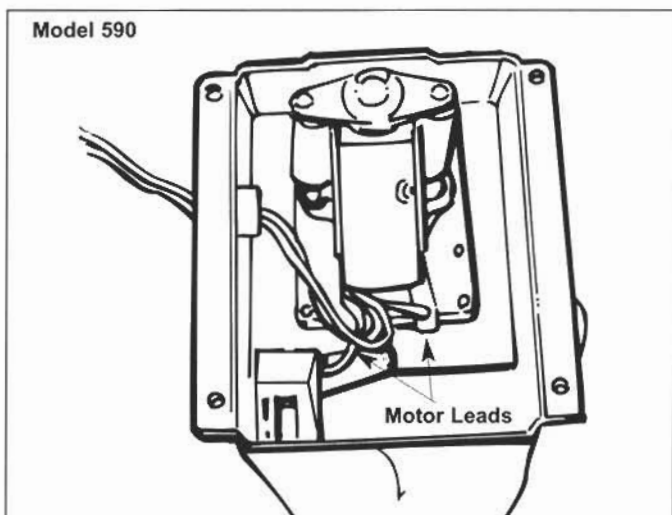

Figure 2-49. Auger Motor Assy.
4. Disconnect the motor leads and switch wiring harness (Figure 2-49).